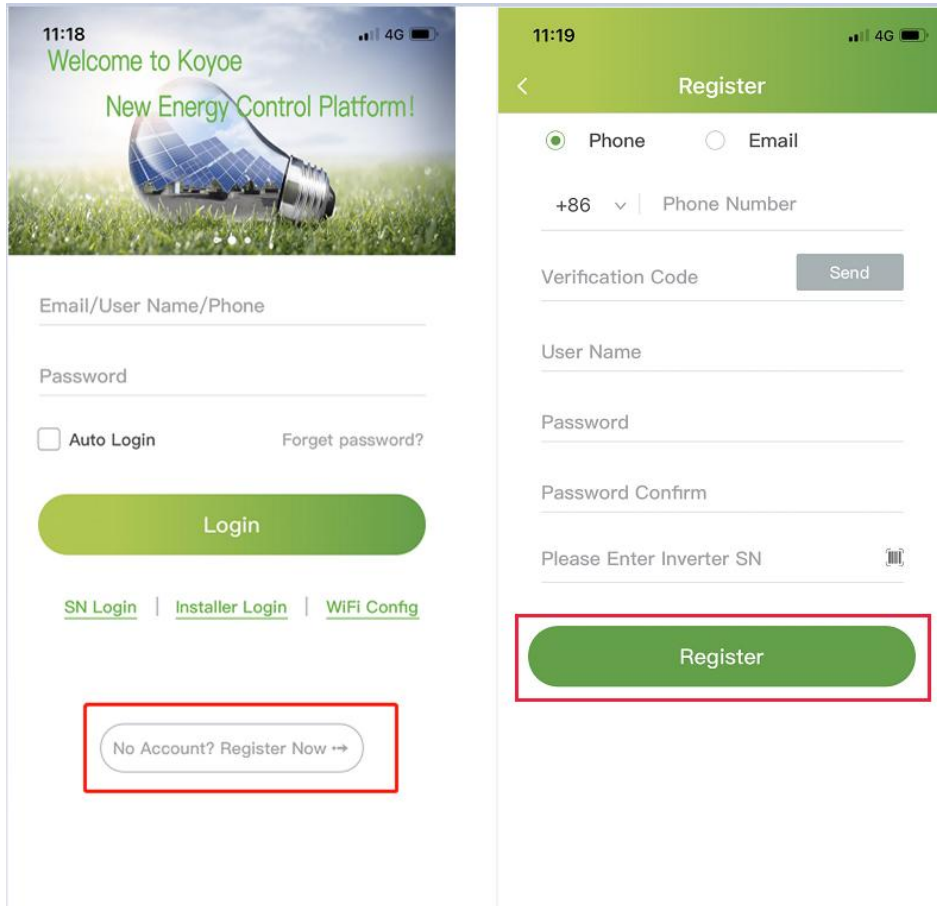

Figure 5-4
c. In apple and android app stores, enter the KOYOE-log keyword, and users can download apps to your mobile device. After installation and registering an account, The method is shown in Fig. 5-4
d. Enter the user name and password to log in, and the user can monitor the voltage, current and power of the inverter. (GPRS module only needs to fill in the SN code in Figure 5-4, and then click Register to monitor the data without the previous steps)